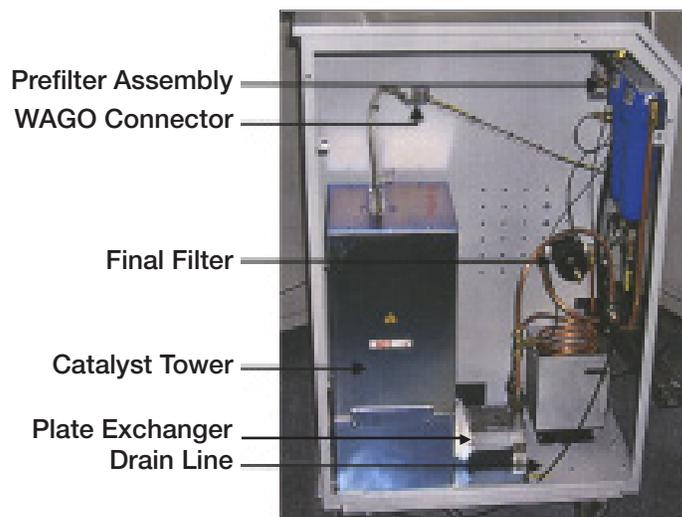

Figure 2 - Location of prefilters, catalyst tower #1, final filter #1, and drain line.
The drain port is located on the bottom of the generator's chassis. The 1/4" diameter plastic drain line attached to the compressed air prefilter assembly is coiled inside the generator. Remove the left side panel and push the drain line through the drain port (Figure 2). Pipe the drain line to a container appropriate for water and trace compressor oil disposal.
- 6 Locate the 4 wires that exit the catalyst module. Remove each wire from the Wago connector using a 1/8" flat head screwdriver. Push the screwdriver into the slot above the wire while pulling the wire out of the connector (see Figure 2).
- 11 Place the wires from the catalyst module into the Wago connector (Figure 2). Make sure the wires are placed in the correct slots.